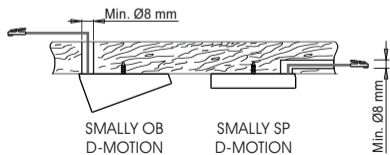

Fig 7
- If necessary, bore a  $\varnothing \geq 8$ mm exit hole for the power supply cable as illustrated in figure 7.